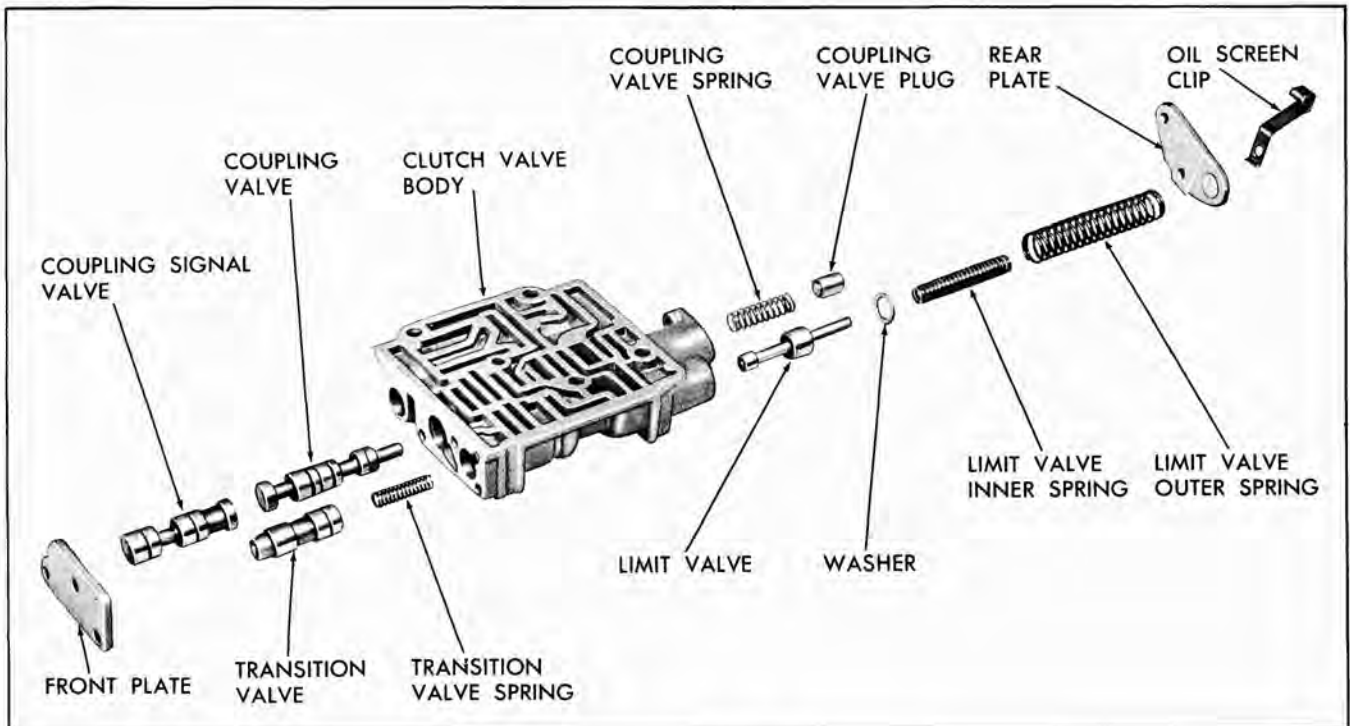

Fig. 136 Clutch Valve Parts—Exploded
body front plate and remove plate (Fig. 136).
1. Install limit valve, stem end out (Fig. 136).